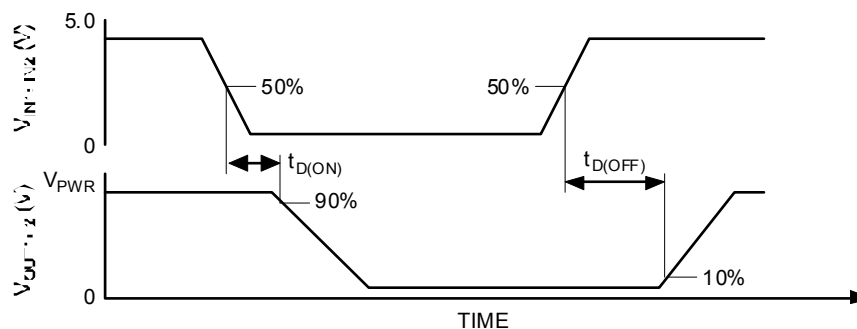

Figure 6. Output Delay Time
- 26 Output Delay is the time duration from the midpoint of the IN1 or IN2 input signal to the 10% or 90% point (dependent on the transition direction) of the OUT1 or OUT2 signal. If the output is transitioning HIGH-to-LOW, the delay is from the midpoint of the input signal to the 90% point of the output response signal. If the output is transitioning LOW-to-HIGH, the delay is from the midpoint of the input signal to the 10% point of the output response signal. See Figure 6, page 12.